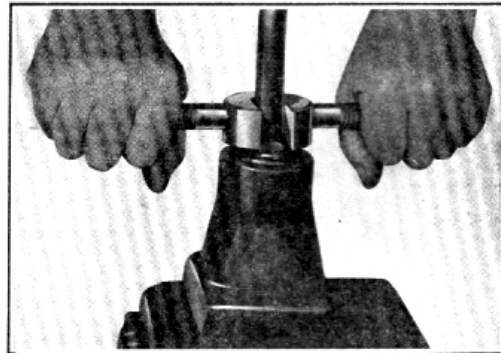

Fig. 3—Removing Gearshift Lever
2. To remove the gearshift lever, slide the open side of tool No. K-353 gearshift lever remover, shown in Fig. 3 over the lever. Engage the lugs in the tool in the open slot of the retainer. Then press down on the tool and turn it to the left to disengage the lugs on the retainer. Lift the lever out of the cover.
4. Remove the cotter pin and castle nut (19) which retain the universal flange (17) to the mainshaft. Loosen the oil seal retaining cap screws as the flange is being pulled from the shaft, in order to prevent damage to oil seal.
5. To remove the main drive gear (1), take out the screws holding the front bearing retainer (2) and pull out the gear.
6. To remove the main shaft (15) take out the screws holding the rear bearing retainer (23), slip the bearing (4) off the forward end of the shaft and drive the shaft toward the rear until the bearing (21) clears the case.